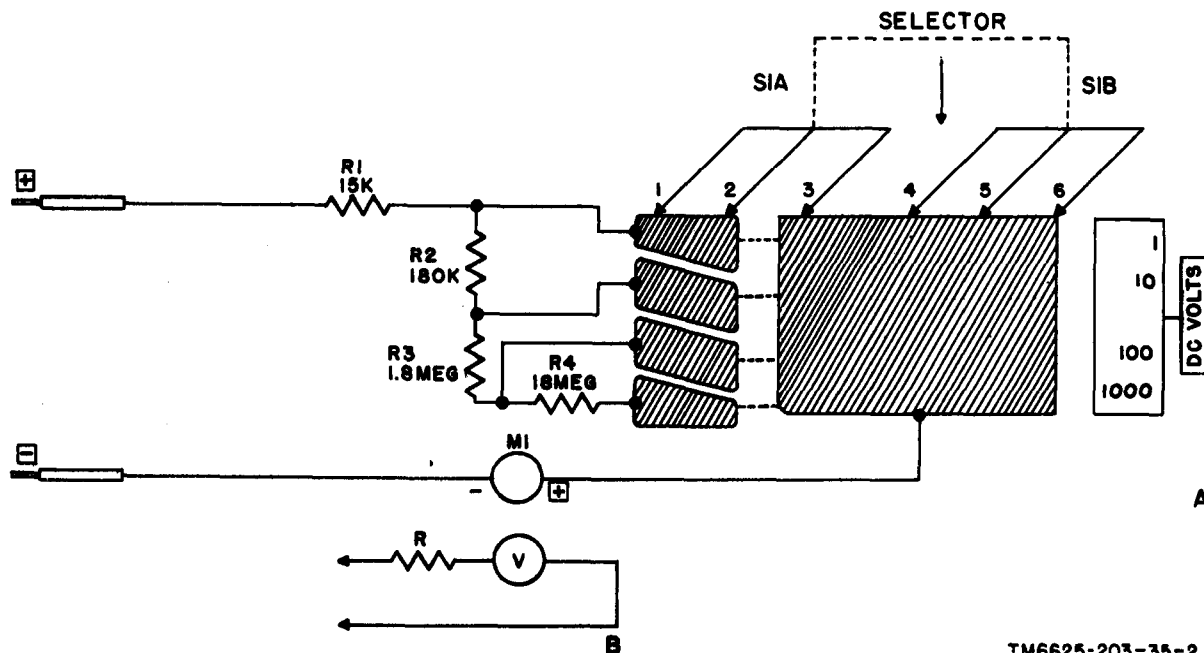

Figure 2. Dc voltmeter circuit, partial and simplified schematic diagram.
a. The simplified dc voltmeter circuit (B, fig. 2) consists of a voltage dropping (multiplier) resistor in series with the meter. The value of the multiplier resistor in series with the resistance of the meter produces a voltmeter sensitivity of 20,000 ohms per volt. Changing the value of the multiplier resistor will change the dc voltage range.
b. Selector switch S1 (A, fig. 2) selects the multiplier resistor or series combination of multiplier resistors required for the particular dc voltage range. Resistors R1, R2, R3, and R4 are the multiplier resistors.